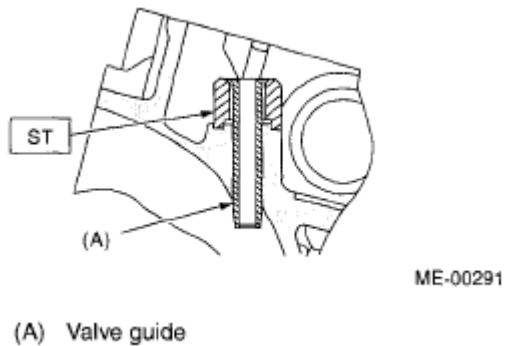

Fig. 140: Identifying Valve Guide
3. Turn the cylinder head upside down and place the ST as shown in **Fig. 140**.